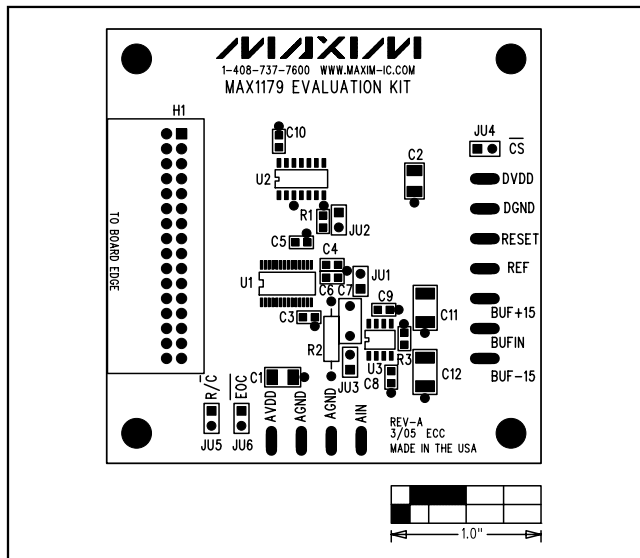

Figure 2. MAX1179 EV Kit Component Placement Guide—Component Side
- 4) Configure the pattern generator to produce the appropriate read/convert ($R/\overline{C}$) and conversion start ($\overline{CS}$) waveforms. Refer to Figure 2 in the MAX1179 data sheet.